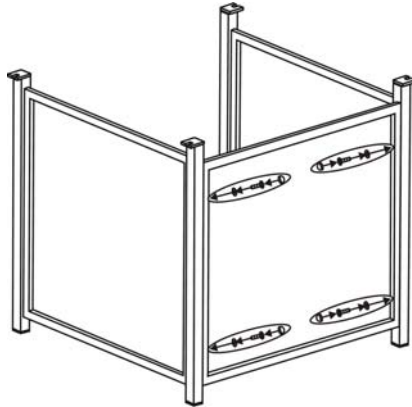

Figure 2
2. Attach the back panel to side panels by using four 1/4"x40 mm bolts and washers as shown in Figure 2. Guide bolts through holes in back panel, into pre-drilled holes in the side panels. **Hand tighten only.**